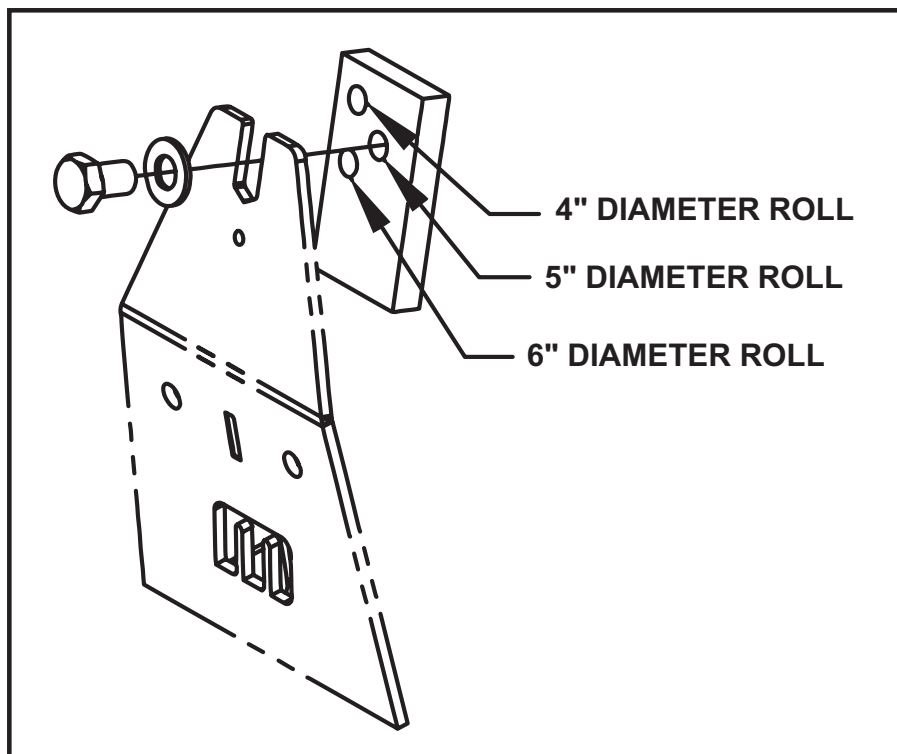

Figure 3. Location of Screw & Washer to End Plate
9. (Refer to Figure 3) Choose proper end plate hole location for screw and washer based on the roll diameter.